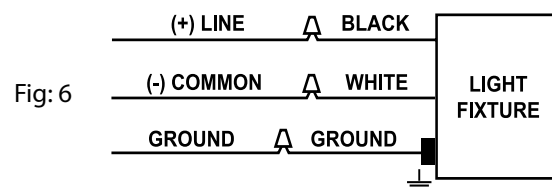

Fig: 6
**RISK OF FIRE.** Compatible with TRIAC dimmers at 120V, 50 or 60Hz. Drop down supply wires must be at least 9" long to allow fixture removal. For non-dimming (on/off), Electronic Low Voltage (ELV) and TRIAC dimming, follow the wiring directions in Fig. 6.